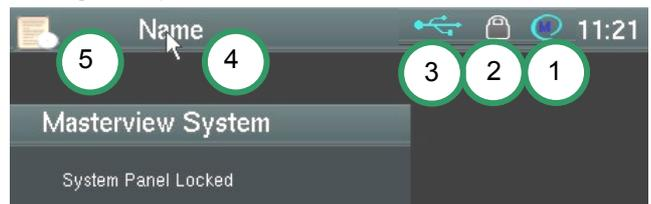

Figure 9: Top bar icons
If the MasterView System is connected to the system, the MasterBus icon appears in the top bar, see figure 9 point 1.
To prevent unwanted operation of your touch screen, it features a screen lock. If you press the name (4) for more than three seconds, the screen is locked and a lock symbol appears at the right corner of the top bar. See point 2 in figure 9.
A USB stick can be used for saving and retrieving the MasterBus settings. With the stick connected, a USB icon appears in the top bar next to the MasterBus logo (figure 9, point 3).